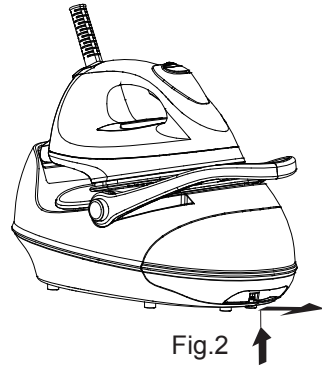

Fig.2
1. Press the water tank lock upwards and slide the detachable water tank outwards from the base. (Once power on, water tank indicator light will turn off while water tank is sliding out.) Fig.2